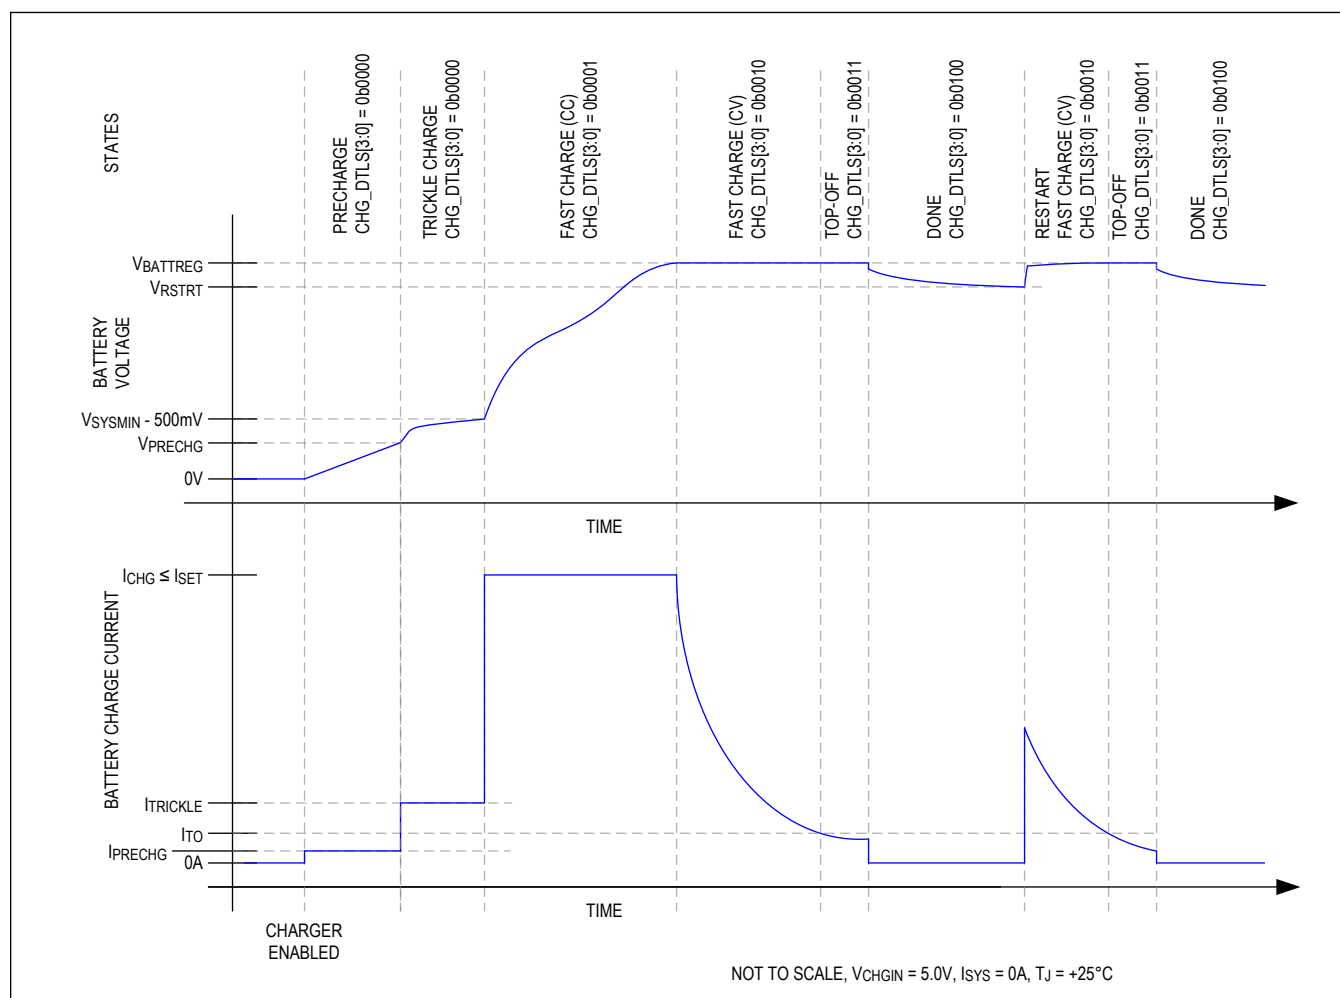
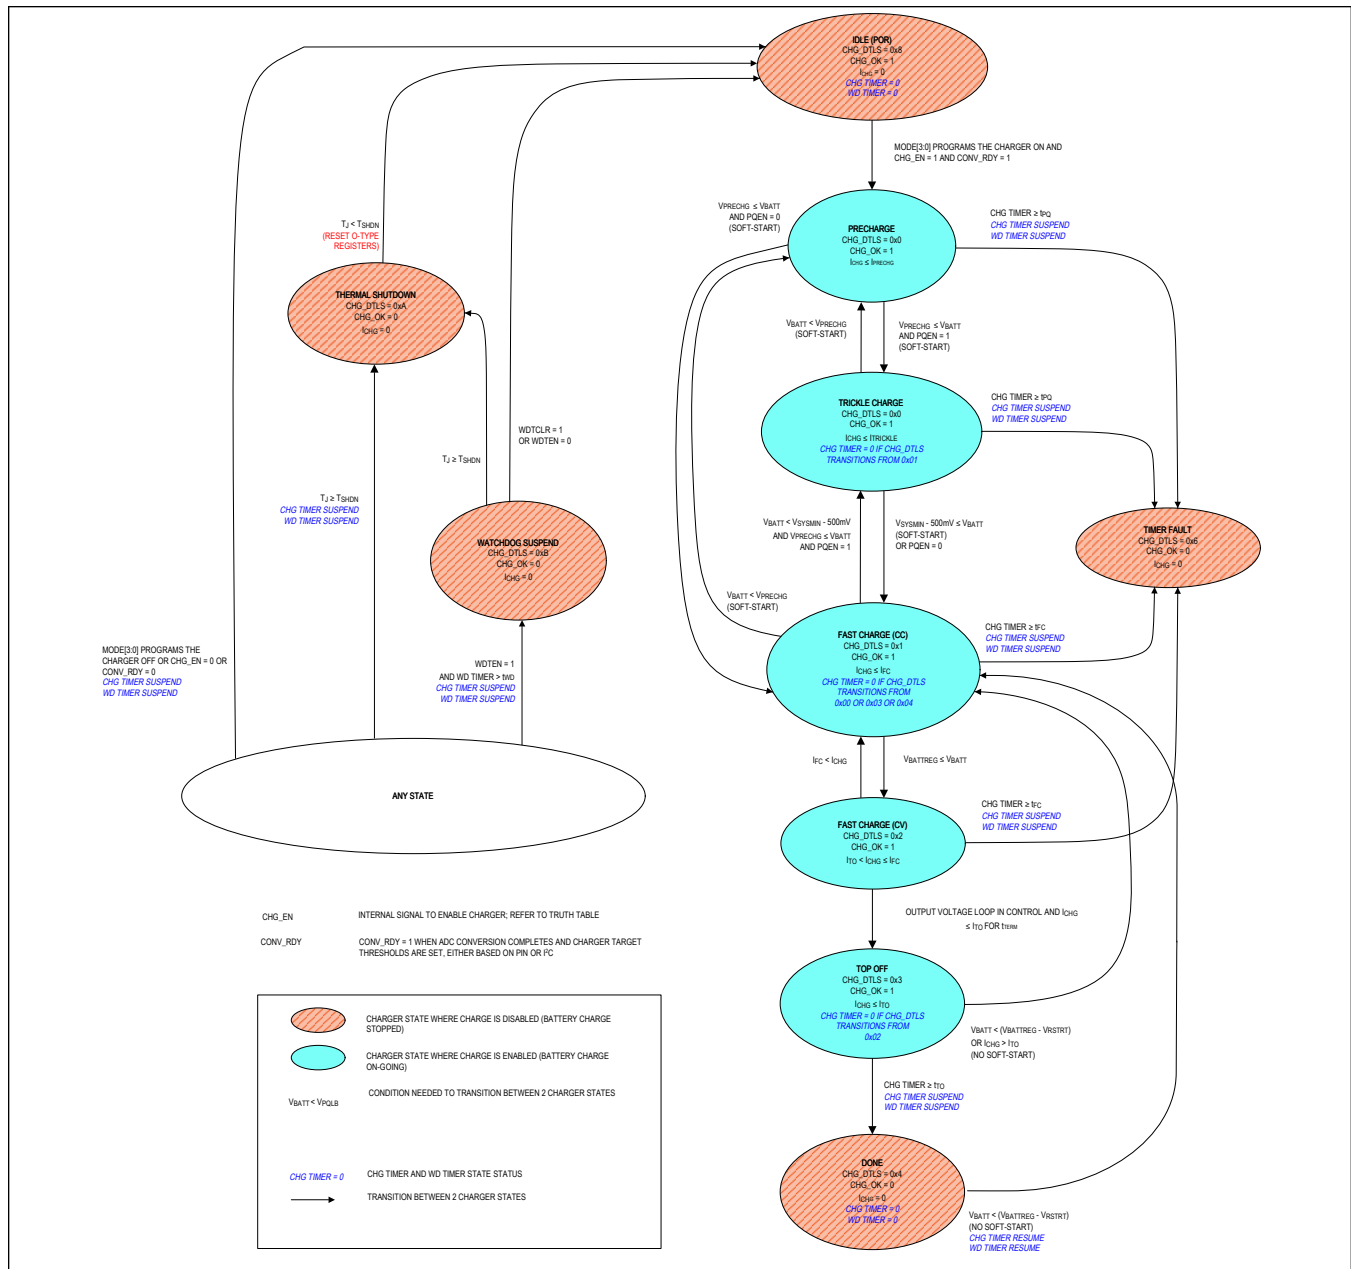

Figure 1. Li Battery Charge Profile
Figure 2. Charger State Diagram
The MAX77960/MAX77961 utilize several charging states to safely and quickly charge batteries as shown in Figure 1 and Figure 2. Figure 1 shows an exaggerated view of a Li+/Li-Poly battery progressing through the following charge states when there is no system load and the die and battery are close to room temperature: Prequalification $\rightarrow$ Fast-charge $\rightarrow$ Top-off $\rightarrow$ Done.
From any state shown in Figure 2 except thermal shutdown, the no input power or charger disabled state is entered whenever the charger is programmed to be off or the charger input CHGIN is invalid. After being in this state for t_{SCIDG} , CHG_DTLS is set to 0x08 and CHG_OK is set to 1. A CHG_I interrupt is generated if CHG_OK was 0 previously.
As shown in Figure 2, the charger enters the precharge state when the battery voltage is less than V_{PRECHG} . After being in this state for t_{SCIDG} , a CHG_I interrupt is generated if CHG_OK was 0 previously, CHG_OK is set to 1 and CHG_DTLS is set to 0x00. In the precharge state, charge current into the battery is I_{PRECHG} .
As shown in Figure 2, the charger state machine is in trickle charge state when $V_{PRECHG} < V_{BATT} < V_{SYSMIN} - 500\text{mV}$. After being in this state for t_{SCIDG} , a CHG_I interrupt is generated if CHG_OK was 0 previously, CHG_OK is set to 1 and CHG_DTLS = 0x00.
As shown in Figure 2, the charger enters the fast-charge constant current (CC) state when $V_{SYSMIN} - 500\text{mV (typ)} < V_{BATT} < V_{BATTREG}$. After being in the fast-charge CC state for t_{SCIDG} , a CHG_I interrupt is generated if CHG_OK was 0 previously, CHG_OK is set to 1 and CHG_DTLS = 0x01.
As shown in Figure 2, the charger enters the fast-charge constant voltage (CV) state when the battery voltage rises to $V_{BATTREG}$ from the fast-charge CC state. After being in the fast-charge CV state for t_{SCIDG} , a CHG_I interrupt is generated if CHG_OK was 0 previously, CHG_OK is set to 1 and CHG_DTLS = 0x02.
In the fast-charge CV state, the battery charger maintains $V_{BATTREG}$ across the battery and the charge current is less than or equal to I_{FC} . As shown in Figure 1, charger current decreases exponentially in this state as the battery becomes fully charged.
As shown in Figure 2, the top-off state can only be entered from the fast-charge CV state when the charger current decreases below I_{TO} for t_{TERM} . After being in the top-off state for t_{SCIDG} , a CHG_I interrupt is generated if CHG_OK was 0 previously, CHG_OK is set to 1, and CHG_DTLS = 0x03. In the top-off state the battery charger maintains $V_{BATTREG}$ across the battery and typically the charge current is less than or equal to I_{TO} .
As shown in Figure 2, the battery charger enters its done state after the charger has been in the top-off state for t_{TO} . After being in this state for t_{SCIDG} , a CHG_I interrupt is generated only if CHG_OK was 0 previously, CHG_OK is set to 0 and CHG_DTLS = 0x04.
The battery charger provides both a charge timer and a watchdog timer to ensure safe charging. As shown in Figure 2, the charge timer prevents the battery from charging indefinitely. The time that the charger is allowed to remain in its prequalification states is t_{PQ} . The time that the charger is allowed to remain in the fast-charge CC and CV states is t_{FC} , which is programmable with FCHGTIME. Finally the time that the charger is in the top-off state is t_{TO} which is programmable with TO_TIME. Upon entering the timer fault state a CHG_I interrupt is generated without a delay, CHG_OK is cleared and CHG_DTLS = 0x06.
The charger is off in the timer fault state. The charger can exit the timer fault state when the charger is programmed to be off then on again through the MODE bits or when DISQBAT pin is toggled from L-H-L. Alternatively, the charger input can be removed and reinserted to exit the timer fault state (see the ANY STATE bubble in Figure 2).
The battery charger provides both a charge timer and a watchdog timer to ensure safe charging. As shown in Figure 2, the watchdog timer protects the battery from charging indefinitely in the event that the host hangs or otherwise cannot communicate correctly. The watchdog timer is disabled by default with WDTEN = 0. Enable the feature by setting WDTEN = 1. With watchdog timer enabled, the host controller must reset the watchdog timer within the timer period (t_{WDP}) in order for the charger to operate properly. Reset the watchdog timer by programming WDTCLR = 0x01.
As shown in Figure 2, the state machine enters the thermal shutdown state when the junction temperature (T_J) exceeds the device's thermal shutdown threshold (T_{SHDN}). When T_J is close to T_{SHDN} , the charger would have already folded back the input current to 0A, (see the Thermal Foldback section for more details), so the charger and the DC-DC are effectively off. Upon entering this state, CHG_I interrupt is generated if CHG_OK was 1 previously, CHG_OK is cleared, and CHG_DTLS = 0x0A.